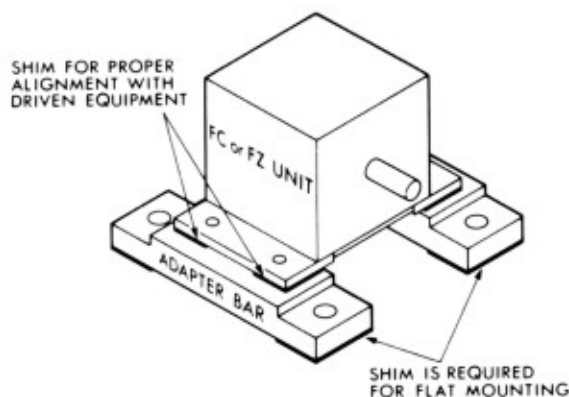

Figure 2
3. The foundation surface in contact with the adapter bar must be flat. If irregularities exist, shim between the adapter bar and foundation to ensure flat mounting of the adapter bar. Refer to Figure 2 for an illustration of the shim locations.
9. Unit should be aligned with driven equipment by placing shims between the FC or FZ unit and the adapter bar, see Figure 2. Refer to Manual 318-040 for complete instructions regarding installation and maintenance of the FC or FZ unit.